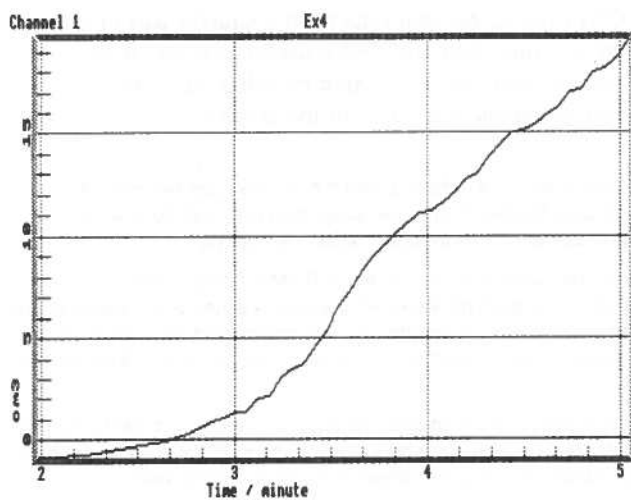

Fig.5
- the S-shape of the volume v. time graph in the initial stages (Fig.5). Why does the reaction rate appear to initially increase with time before following what we consider to be the *normal* type of decrease? You may need to *zoom in* on part only of the results. This is done by adjusting the axes in order to replot over a smaller part of the time axis in order to see this.